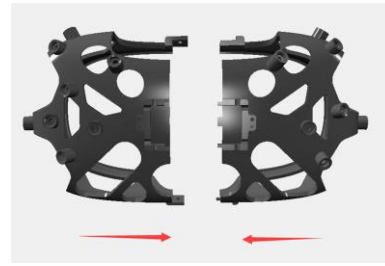
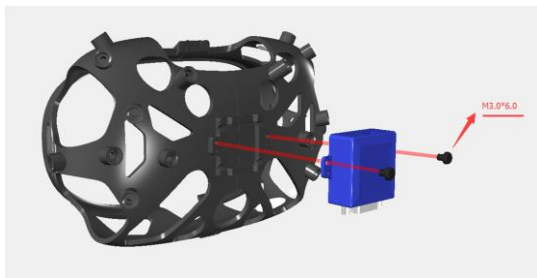

Figure 21 - The VIVE holder consists of two pieces that slide over the HMD from the side.
Figure 22 - Attach the IMU with the USB port facing upwards using the supplied (long) screws.
5. Follow the further steps as shown in Figure 21, Figure 22.